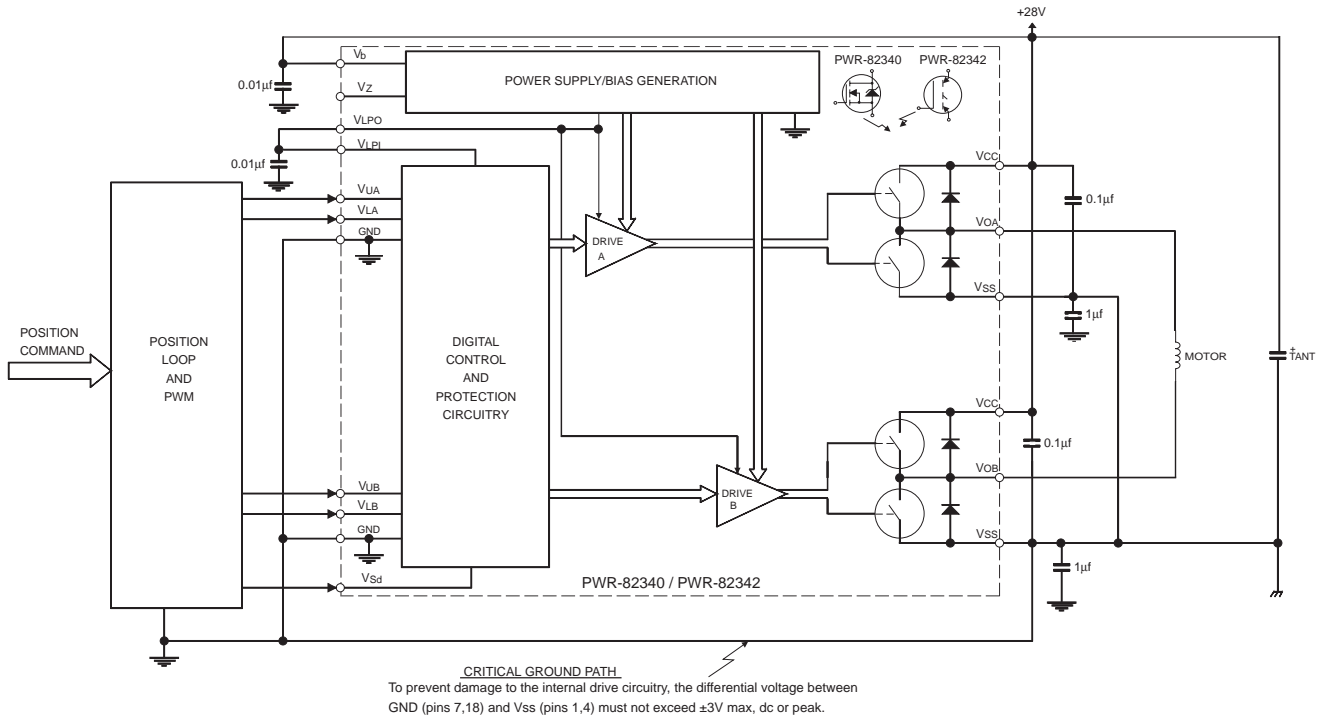

FIGURE 8. PWR-82340/342 TYPICAL INTERFACE WITH A MOTOR AND PWM
external to the hybrid. Pin 12 is the logic power input (V_{LPI}) for the digital circuitry inside the hybrid. **A 0.01 μ F, 50 V ceramic capacitor must be placed between this pin (12) and GND as close to the hybrid as possible.** When using 15 V control circuitry, the logic power input (pin 12) can be connected directly to the logic power output (pin 11) of the hybrid. There is no need for an additional external power supply. **When using 5 V control logic, an external +5 VDC supply must be connected between pin 12 of the hybrid, and GND — leave Pin 11 open (N/C).** The control circuitry can be as simple as a PWM, or as sophisticated as a microprocessor or custom ASIC, depending on the system requirements. The Block Diagram in FIGURE 8 shows a typical interface of the PWR-82340 and PWR-82342 with a motor and control logic in a Servo-Amp System.